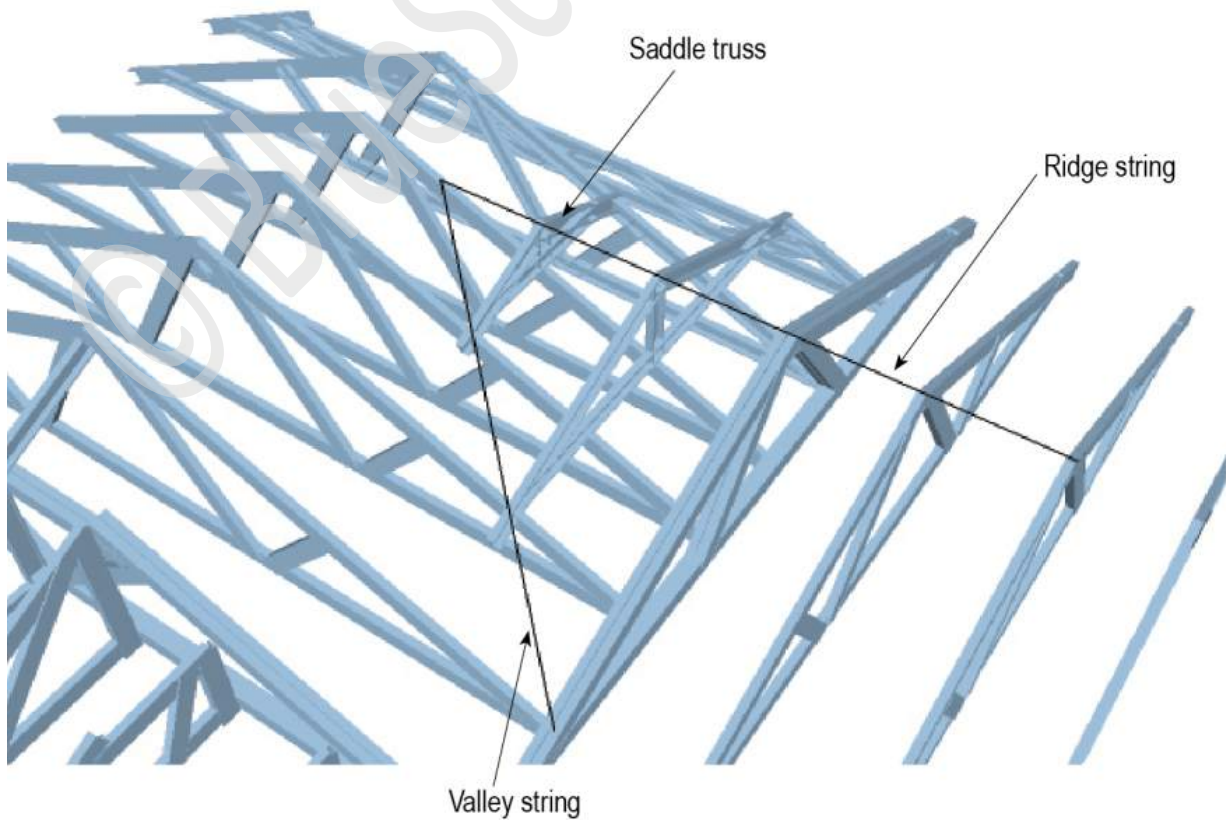

Figure 7.29a Saddle truss detail
STEP 2: Fix a string line along the ridge line of your roof and down the valley lines to aid in the positioning of saddle trusses as shown in Fig. 7.29a.